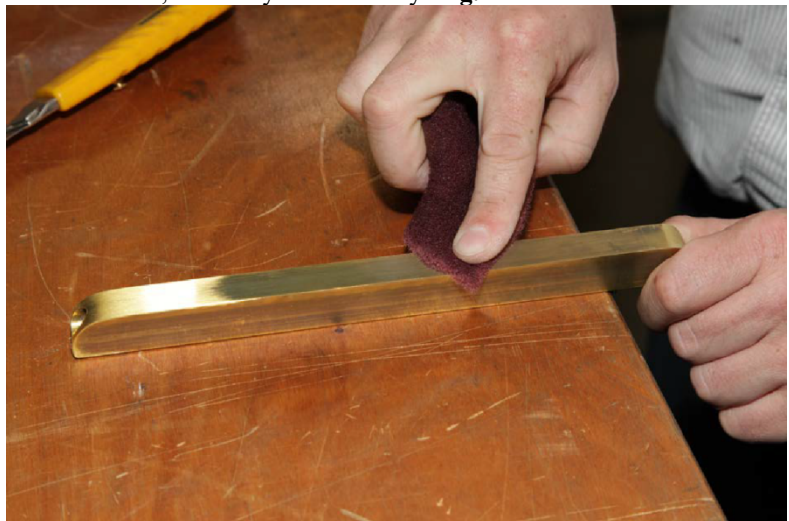

Figure 14
14. With Scotch Brite, clean any residue away. **Fig. 14**